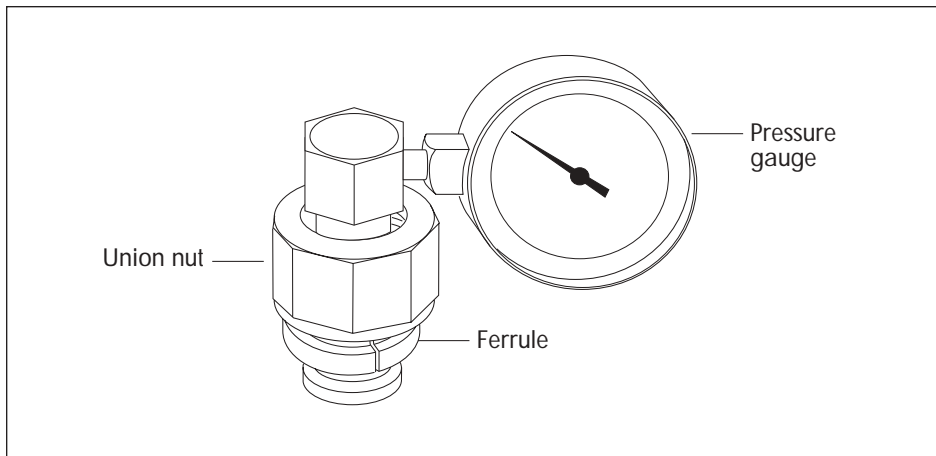

Figure 9. Union Nut and Ferrule on Pressure Gauge
- a. Slide the union nut and the ferrule over the fitting end of the pressure gauge, as shown in Figure 9.